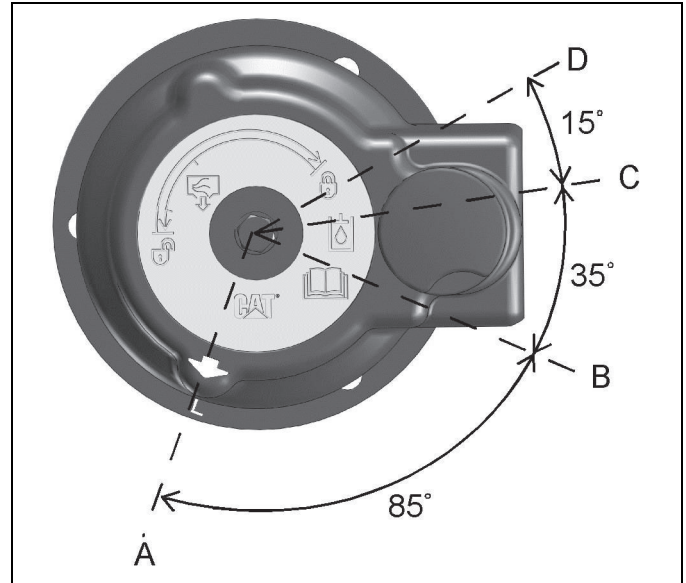

Figure 10-146: Filler Cap
- (A) LOCK position
- (B) PRESSURE RELEASE - START position
- (C) PRESSURE RELEASE - END position
- (D) OPEN position
4. Release the pressure that may be present in the return hydraulic circuit with the following procedure. Refer to Figure 10-146 for filler cap positions.
- a. Turn the filler cap counterclockwise and move the arrow from position (A) to position (B).
- b. Release the pressure for a minimum of 45 seconds by moving the arrow from position (B) to position (C).
- c. Move the arrow from position (C) to position (D).
- d. After the tank pressure is relieved, tighten the filler cap on the hydraulic tank to position (A).